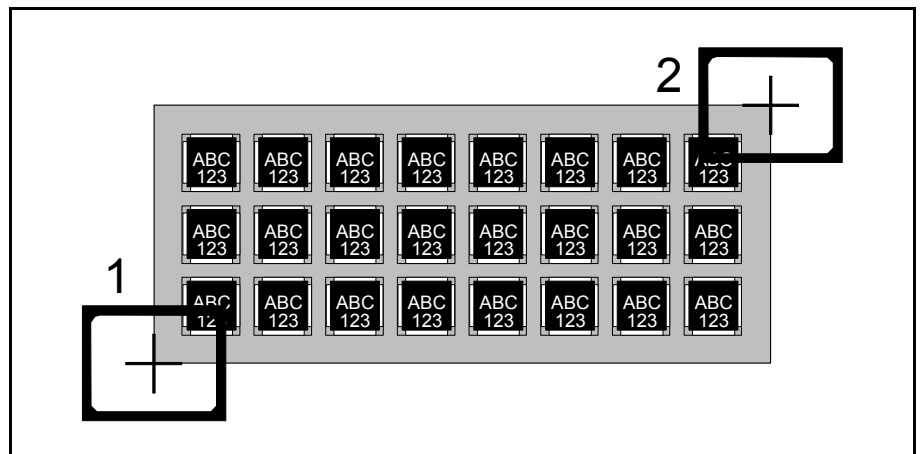

Figure 6-8. Positioning two tray corners
Figure 6-8 shows the cross hairs on the lower left corner at the first component (1), and on the upper right corner at the last component (2).